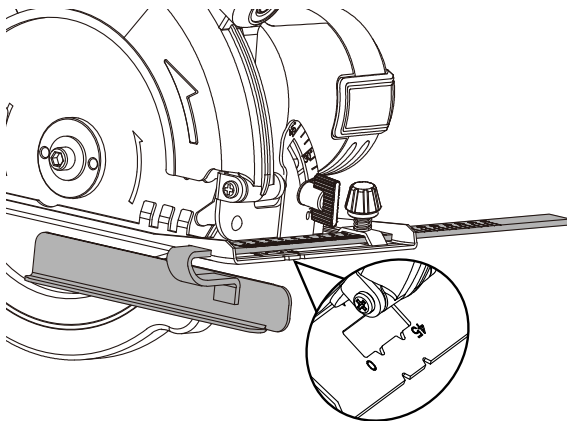

Figure 11
5. CUTTING GUIDE (SEE FIG. 11)